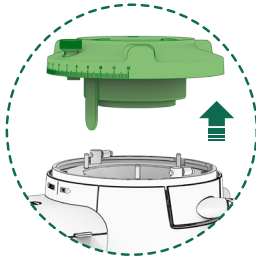

Fig. 14
12.3.9. Pull up holding the grind regulator (13), to access the grinding cavity, clean the interior with the help of a brush or vacuum cleaner and remove any coffee residue from the grinding cavity (**Fig. 14**).